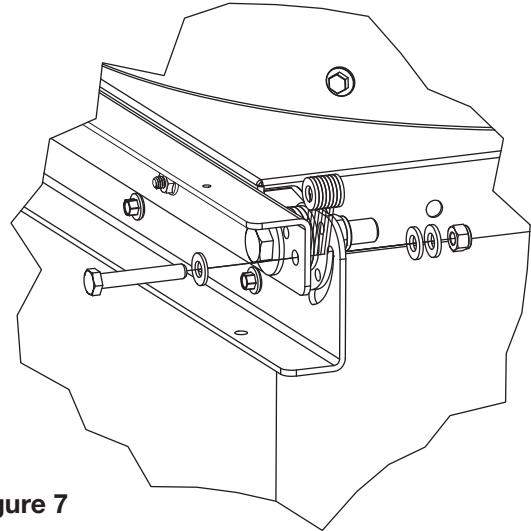

Figure 7
9. In similar fashion to step 7, install the 5/16" - 18 x 2" shoulder bolt and washers into the follower bolt hole and follower bolt slot as shown in Figure 7. After determining the amount of 5/16" flat washers needed to act as a spacer it may help to tape them together for installation. Remove the tape after installation if this method is used.